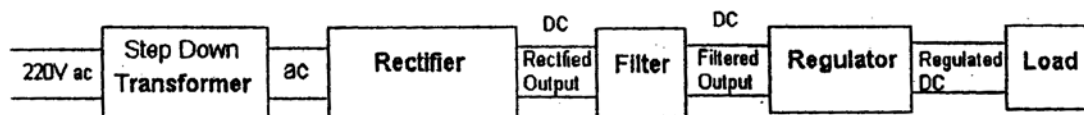
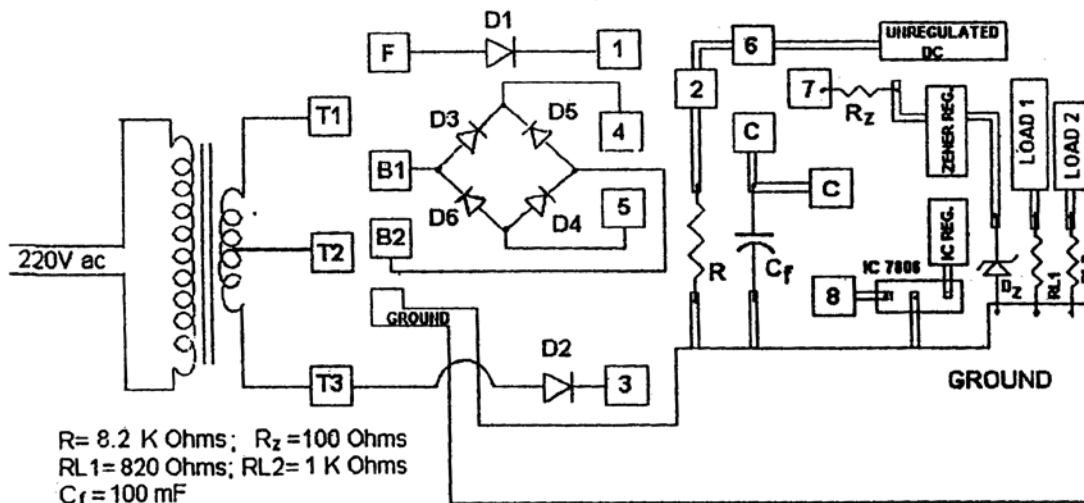

Fig.1 POWER SUPPLY BLOCK DIAGRAM
Fig.2 Circuit Board Layout.
1. Trace the circuit in the board. Locate in the board the various components shown in Fig.2. Identify in the given board the various blocks of Fig.1.